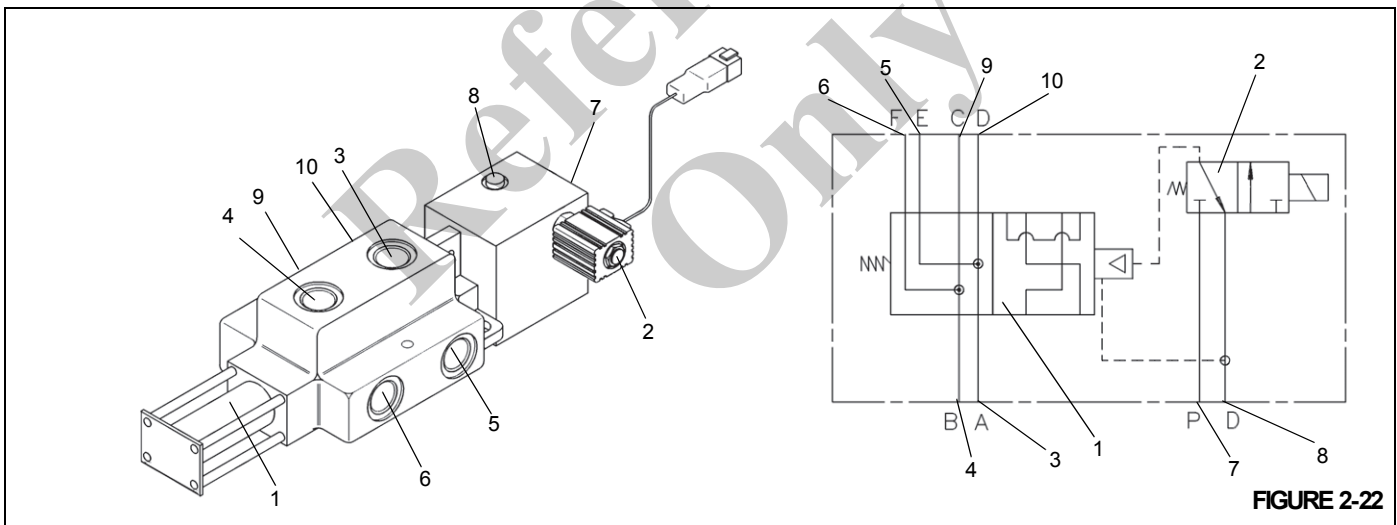

FIGURE 2-22
The series parallel selector valve (Figure 2-22) is used to select the swing motor speed. It is located on the outside of the turntable right hand side plate. It consists of a pilot operated two-position four-way valve (1) and a solenoid actuated two position three-way (2) (Figure 2-22) that is the pilot valve. It is plumbed between the swing directional control valve and the swing motors.